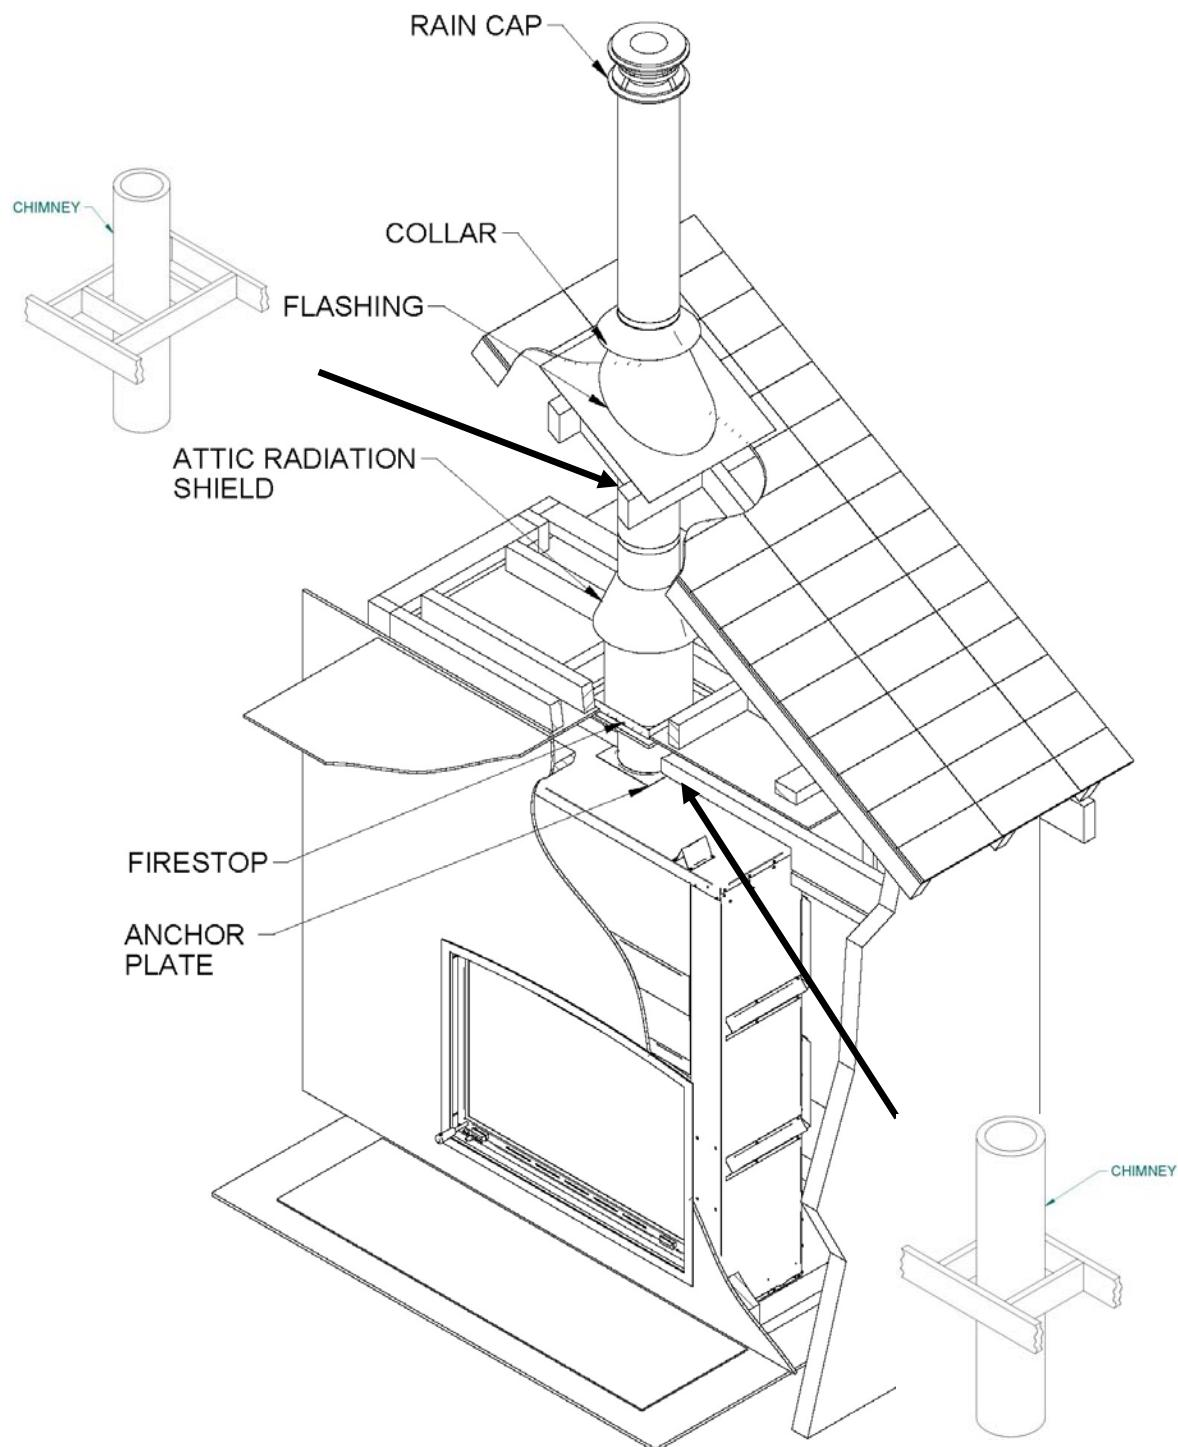

Figure 30
2. From below, install a firestop supplied by the chimney manufacturer in each ceiling/floor separation through which the chimney will pass. At the attic level, install an attic radiation shield from above (see **Figure 30**).
3. Follow the chimney's manufacturer's instructions and place the first chimney length on the fireplace. For all chimneys, you must use an anchor plate supplied by the chimney manufacturer before installing the first chimney length (see **Figure 30**). Continue installing chimney lengths making sure to lock each length in place according to the chimney manufacturer's instructions. In many cases, it is recommended to secure connections with three (3) $\frac{1}{2}$ " (12 mm) metal screws.
5. Then, put the roof flashing in place and seal the joint between the roof and the flashing with roofing pitch (see **Figure 30**). For sloping roofs, place the flashing under the upper shingles and on top of the lower shingles. Nail the flashing to the roof, using roofing nails.